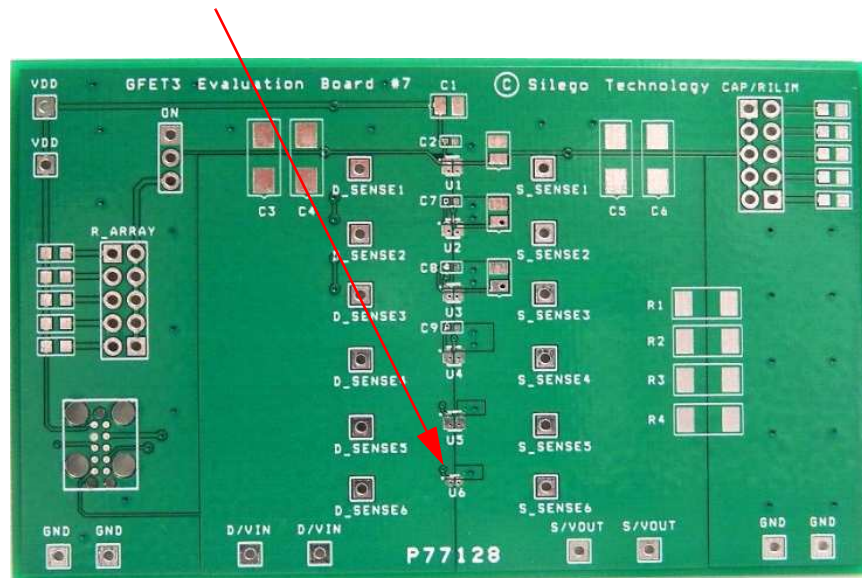

Figure 1. SLG59M1558V Evaluation Board
1. Since the VIN and VOUT pins dissipate most of the heat generated during high-load current operation, it is highly recommended to make power traces as short, direct, and wide as possible. A good practice is to make power traces with an absolute minimum widths of 15 mils (0.381 mm) per Ampere. A representative layout, shown in Figure 1, illustrates proper techniques for heat to transfer as efficiently as possible out of the device;
A GreenFET Evaluation Board for SLG59M1558V is designed according to the statements above and is illustrated on Figure 1. Please note that evaluation board has D\_Sense and S\_Sense pads. They cannot carry high currents and dedicated only for RDSON evaluation.